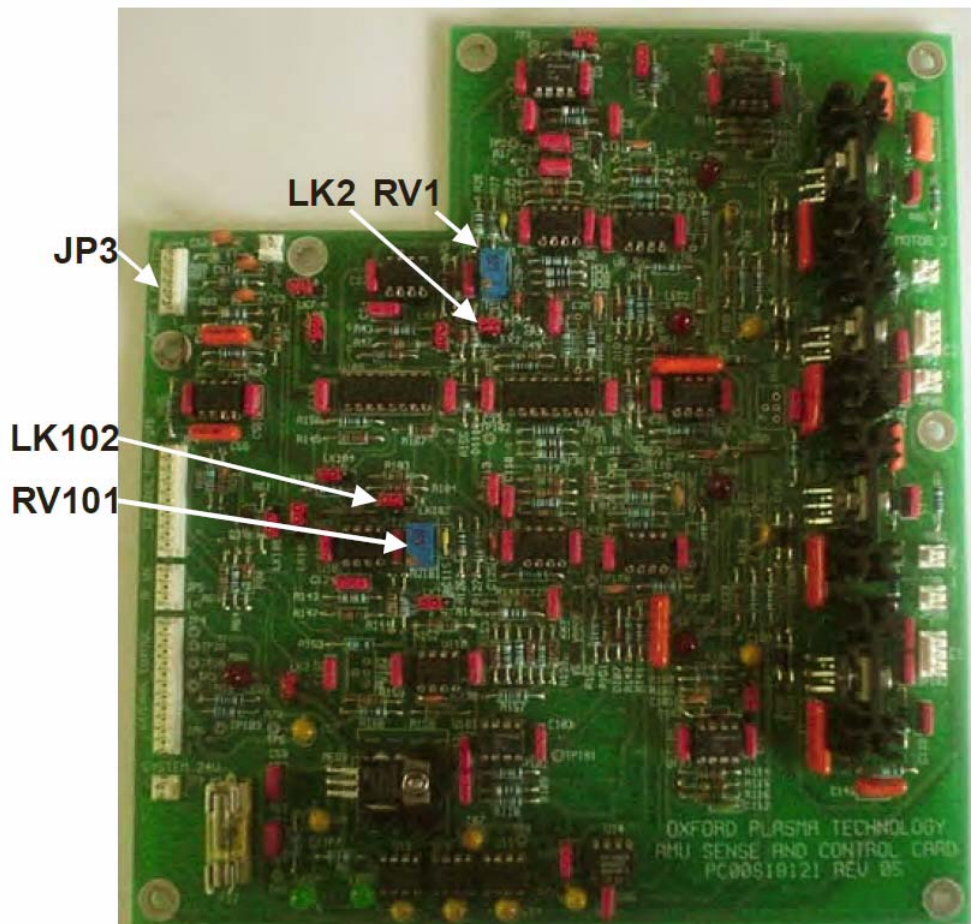

Figure 3-4 AMU setup component locations
- 8 Set LK2 and LK102 to position b, and then turn RV1 and RV101 fully clockwise until they begin to click (see Figure 3-4).
- 10 Manually match to the lowest possible reflected power using the RF AUTOMATCH panel (see Section 4.3.7.9), and make sure a plasma is running. Adjust the error signal zero potentiometers RV1 and RV2 (located on the same side of the AMU as the RF in connector; see Fig 1), while monitoring the two error signals on JP3 pins 1 and 3 (See Figure 3-4). These should be less than 20 mV when a match exists. Amplified error signals are accessible at TP 10 and TP 110; these should be made as low as possible when the RF is well matched.